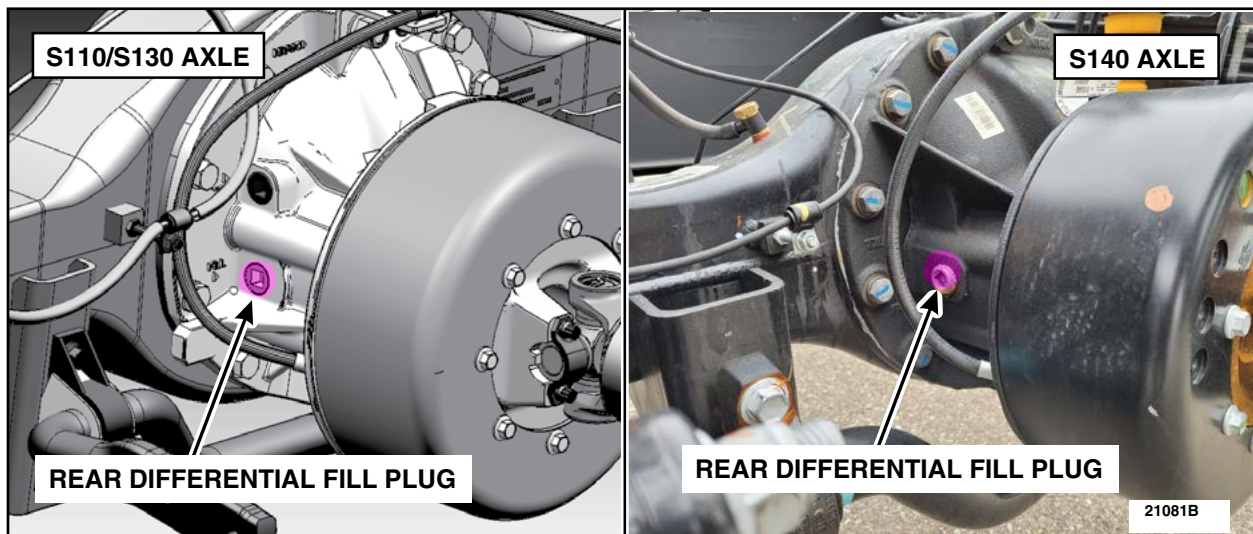

FIGURE 1
7. Top off the axle with rear axle lubricant XY-75W140-QL. See Figure 1.
4. Drain and refill the axle with *new* rear axle lubricant XY-75W140-QL. See Figures 1 and 2.
5. Drain and refill the axle with *new* rear axle lubricant XY-75W140-QL. See Figures 1 and 2.